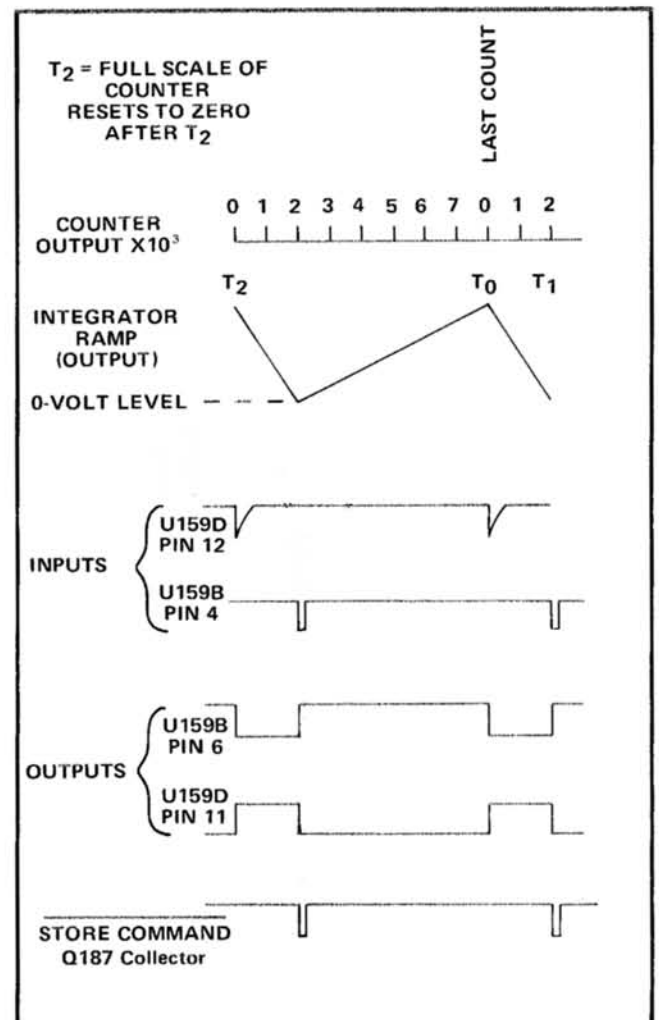

Fig. 3-2. Analog-to-Pulse-Width Converter circuit waveforms showing their relationship to the Counter output.
Fig. 3-2 shows the time relationship of the Counter output and the Analog-to-Pulse-Width Converter circuits. The Integrator ramp waveform represents the Integrator output for a full-scale measurement (e.g., 2,000 V). Regardless of the measurement input, the duration of the ramp remains the same; the positive portion of the ramp always ends at  $T_0$ , corresponding to the Last Count from the Counter.
the ramp and the output of the Zero-crossing Comparator is shown in Fig. 3-2; the input to U159B at pin 4 is the output of the Zero-Crossing Comparator.
**Zero-Crossing Flip-Flop.** The Zero-Crossing Flip-Flop is an RS flip-flop made up of U159B and D. This circuit has two inputs and two complementary outputs, all of which are shown in Fig. 3-2.
The resulting signal at the collector of Q187 is a negative pulse,  $\overline{\text{STORE COMMAND}}$ , coincident with the Zero-Crossing input to U159D (see Fig. 3-2). This signal is connected to the Store Command Delay circuit and to the Polarity Indicator circuit.
$I_r$  is sunk from the drain of Q149 to the Floating Power Supply common through CR165, VR164, and Q163 when pin 6-U159B is HI. When the Last Count pulse sets pin 6-U159B to LO, Q163 is turned off to reverse bias CR165.  $I_r$  is now switched through CR150 to the Integrator current-summing point to end the positive portion of the ramp (see Fig. 3-2).